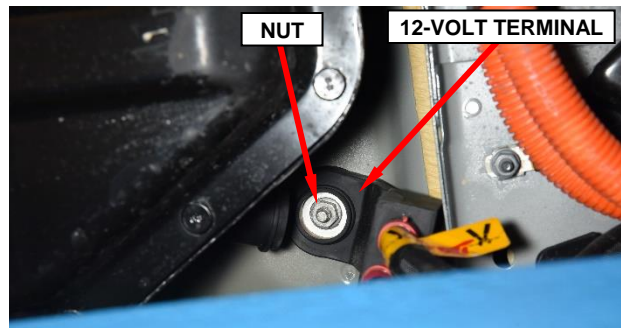

Figure 18 – 12-Volt Cable Terminal
7. Loosen the nut and remove the 12-volt terminal and nut assembly from the isolator post (Figure 18).